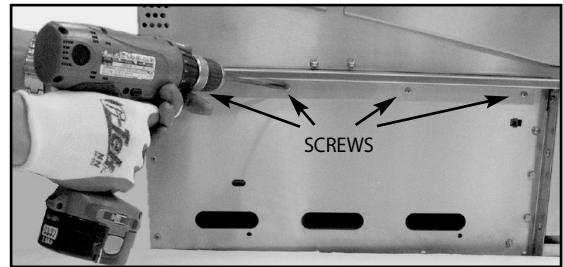

Fig. 04
1. First you will need to remove the angle brackets from the side of the unit and replace them with cart mount brackets (Fig. 04). Unit is shipped prepared for island installation.
2. Install the Bracket Tab on both sides using 8 of the 10-24 x 1/2" screws. Install each bracket with 4 screws on each side of the grill head (Fig. 04, 05 and 06). For a CAD-48, use the appropriately labeled bracket for your grill head and cart side.